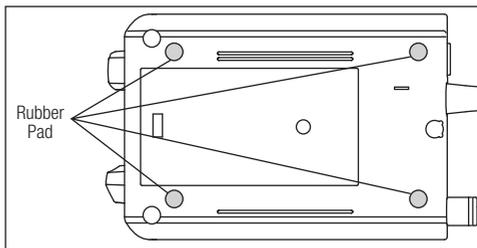

Fig. 6
- 2) Fit the Rubber Pad appropriate place as shown on the Fig. 6.